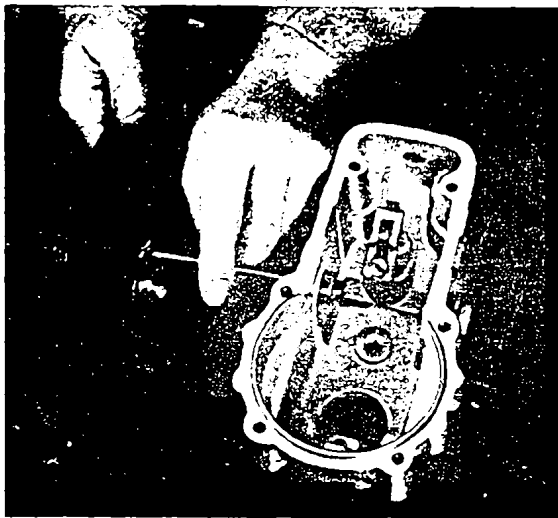

Fig. 19 Removing the bearing bushes
Press swivel lever to one side so that bearing bush (55) can slide out of governor cover (Fig. 19); it can then be removed together with seal (57) and sealing cap (59).